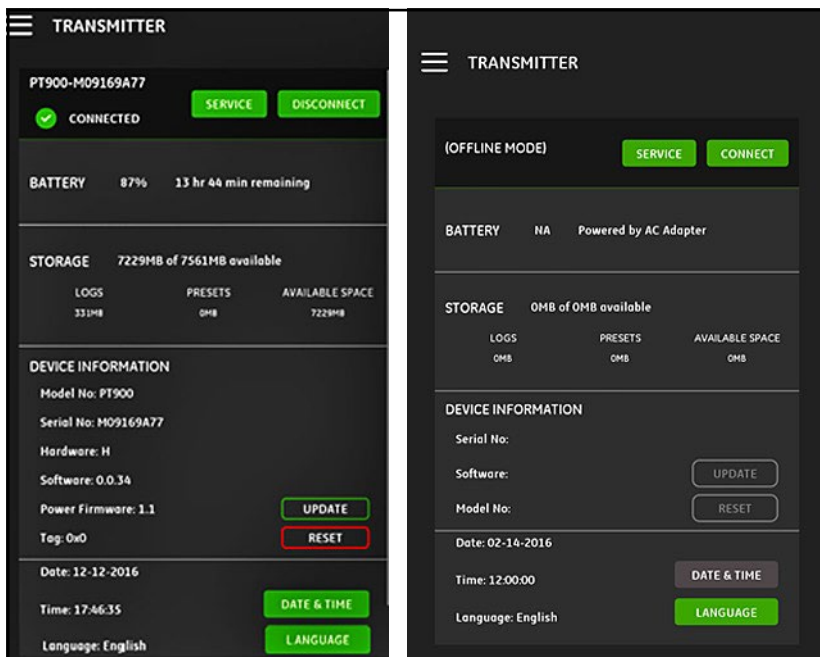

Figure 118: CONNECTED (Left) and OFFLINE (Right) Menus
**Important:** Before creating a new log, be sure to synchronize the transmitter and the tablet time settings by clicking the DATE & TIME button in the TRANSMITTER menu (see Figure 118 on page 116).
1. Be sure the transmitter and tablet time settings are synchronized by setting the transmitter time in the TRANSMITTER > DATE & TIME menu (see Figure 118 on page 116).
If a PT900 transmitter is CONNECTED to the tablet APP via Bluetooth, the TRANSMITTER menu shows device information about the PT900 transmitter, the battery and the memory usage. However, if the connection is OFFLINE, this information is unavailable. See examples of both possibilities in Figure 118 below.
7. Go to the TRANSMITTER menu (see Figure 118 on page 116) and verify that the device information is correct.